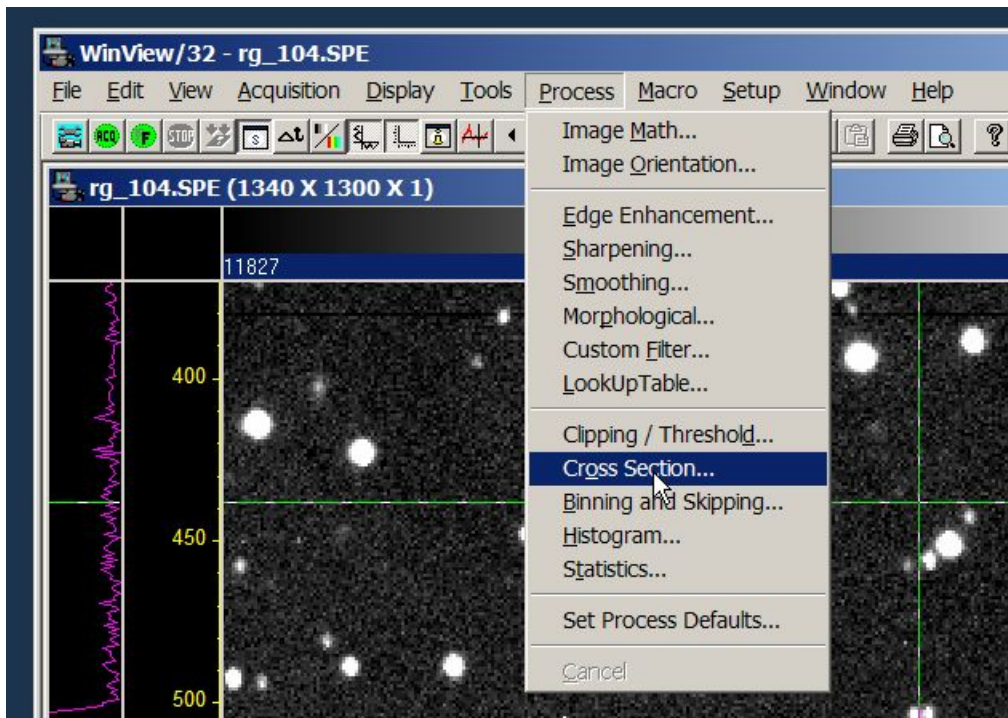

Figure 53
- Press “Process” in the “*Winview*” software menu and then “Cross Section...” (*Figure 53*).